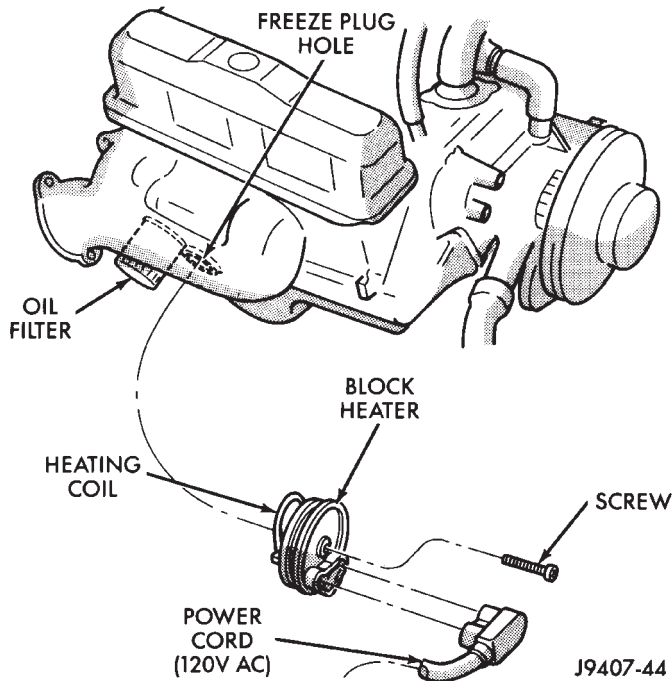
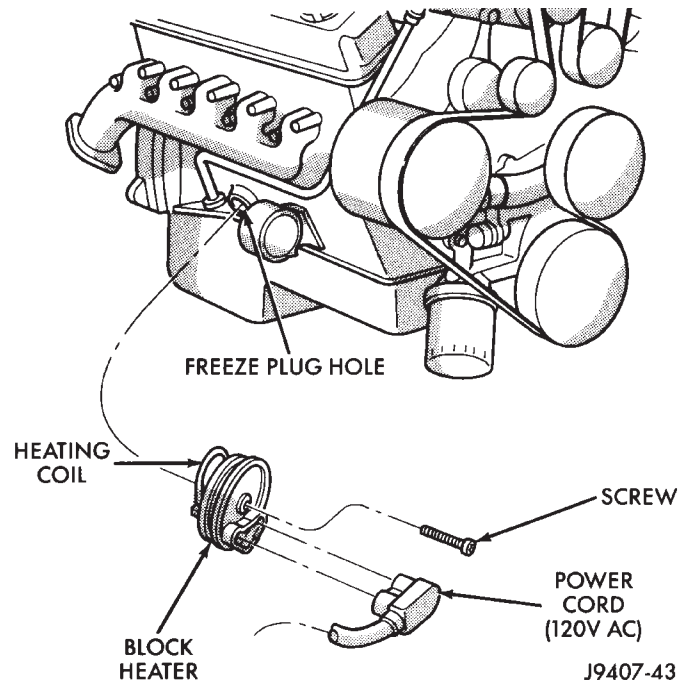

Fig. 83 Block Heater—3.9L/5.2L/5.9L Gasoline Engine
Fig. 84 Block Heater—8.0L V-10 Engine
- (1) Disconnect battery negative cable.
- (2) Drain coolant from radiator and cylinder block.
- (3) Remove power cord from heater by unplugging (Fig. 83) (Fig. 84).
- (4) Loosen (but do not completely remove) the screw at center of block heater (Fig. 83) (Fig. 84).
- (5) Remove block heater by carefully prying from side-to-side. Note direction of heating element coil (up or down). Element coil must be installed correctly to prevent damage.